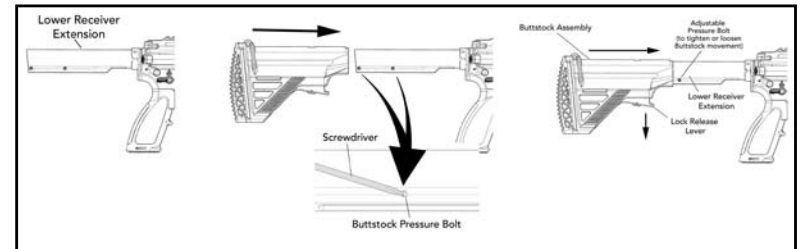

Fig. 51 – Buttstock reassembly
- b. Two small set screws are located on the bottom of the receiver extension (buffer tube). These set screws are provided to eliminate any play that may develop between the buttstock and the extension. The left hand side of the set screw features a detent surface that engages the buttstock. The right hand surface features a cut to accommodate a small straight slot screwdriver. Rotating the set screws clockwise will tighten the detents to the buttstock; rotating the setscrew counter clockwise will loosen the buttstock. Using a straight slot screwdriver, rotate the set screws clockwise using quarter turns and adjust until the detents engage the buttstock but do not hinder removal or installation (Fig. 51)